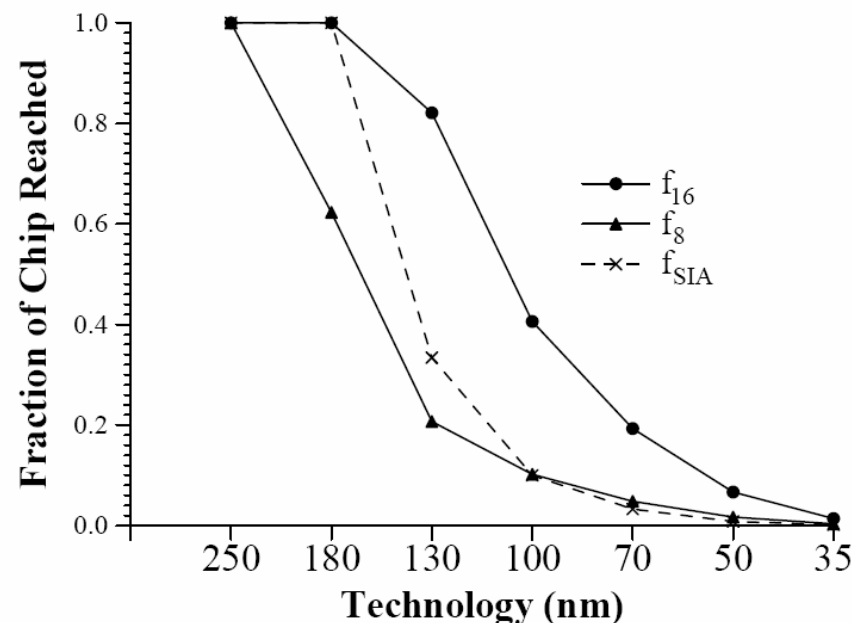

Figure 4: Fraction of total chip area reachable in one cycle.
- Figure 4 from “Clock Rate versus IPC: The End of the Road for Conventional Microarchitectures,” Vikas Agarwal, M.S. Hrishikesh, Stephen W. Keckler, and Doug Burger